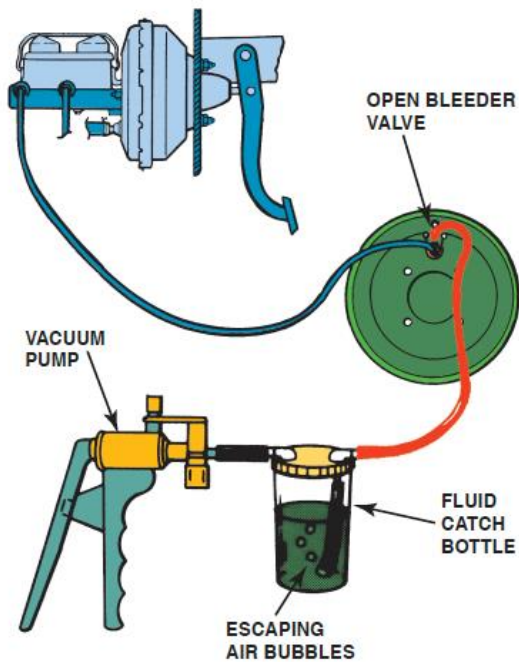

Figure 27. Vacuum bleeding.
*Vacuum bleeding* uses a special suction pump that attaches to the bleeder screw. The pump creates a low-pressure area at the bleeder screw, which allows atmospheric pressure to force brake fluid through the system when the bleeder screw is opened. Figure 27.